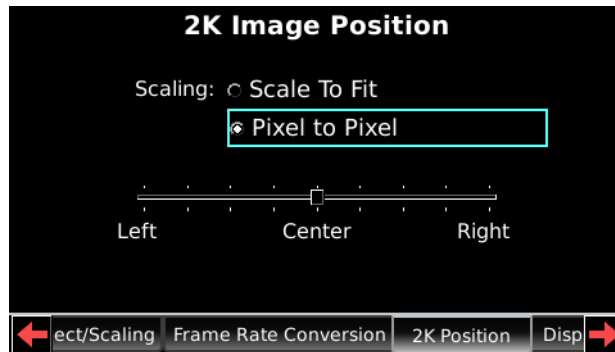

Figure 2-37 System/2K Image Position Screen
- **Fullscreen** scales the source by the required scale factor to fill at least one dimension of the $1,920 \times 1,080$ raster. For example, the system scales up a $1,280 \times 720$ source by 1.5. For 2K sources that are not cropped by the 2K image position setting (see Figure 2-37), the system scales down to $1,920 \times 1,080$. All other formats scale up.
If the system detects a 2K input source, the **2K Image Position** screen appears, as shown in Figure 2-37. In this screen, you can change the current settings.